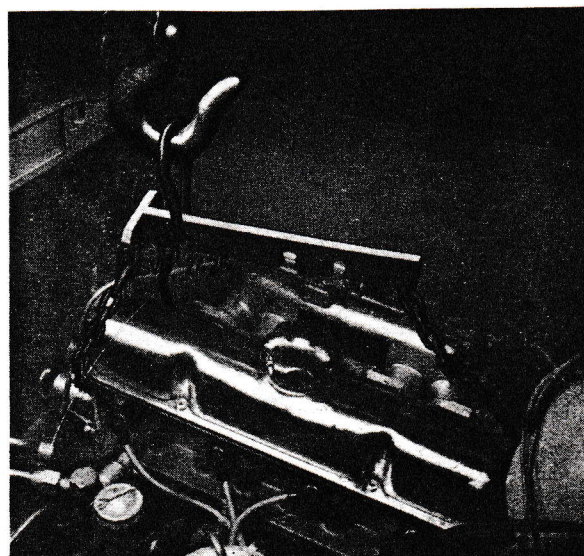

Fig. 32. Lifting out the engine
7. Fit lifting tool SVO 2425 to the engine. The bolt on the tool is tightened in the hole on the forward end of the cylinder head (the bolt for the fuel pipe clamp is removed) the hooks being fitted under the front and rear ends of the manifold. See Fig. 32.